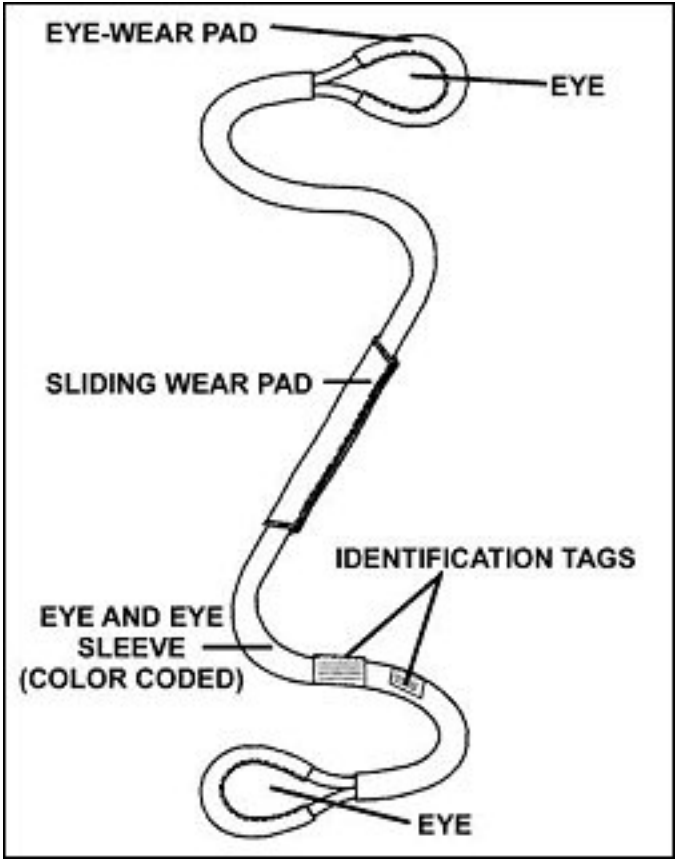

Figure 5-6. Polyester roundslings.
e. **Polyester Roundslings.** Use polyester roundslings as the primary vertical pendant (Figure 5-6). You can use the three hitches described in Chapter 6 to attach roundslings to the load. The lifting capacity of polyester roundslings varies with the size of the sling and the type of hitch used to attach the load. Each sling has two identification tags permanently sewn to the eye and eye sleeve. These identify the size and capacity of the roundsling as well as other information needed for its safe use. Roundslings are also color-coded by size. Table 5-2 lists roundsling lengths and lift capacities.